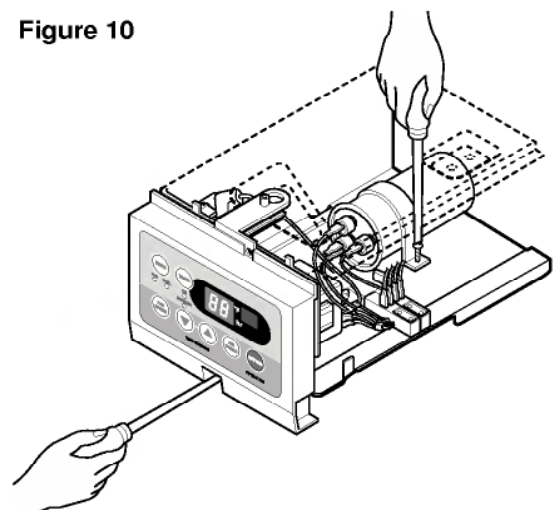

Figure 11
4. Remove a screw and unfold the control box. (See Fig. 11)
5. Remove the screw and the clamp which fastens the capacitor. (See Fig. 11)